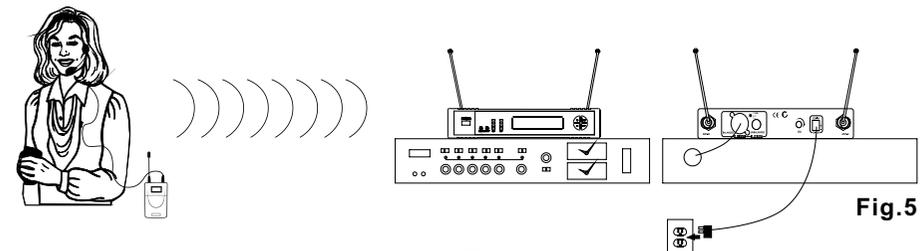

Fig.5
- Refer to Fig.5 below, insert the cable into the cable restraint, connect the AC power adaptor to the DC IN connector on the back of the receiver. Plug the adaptor into an AC wall socket. Push to switch on the receiver. The LCD on the receiver will glow.